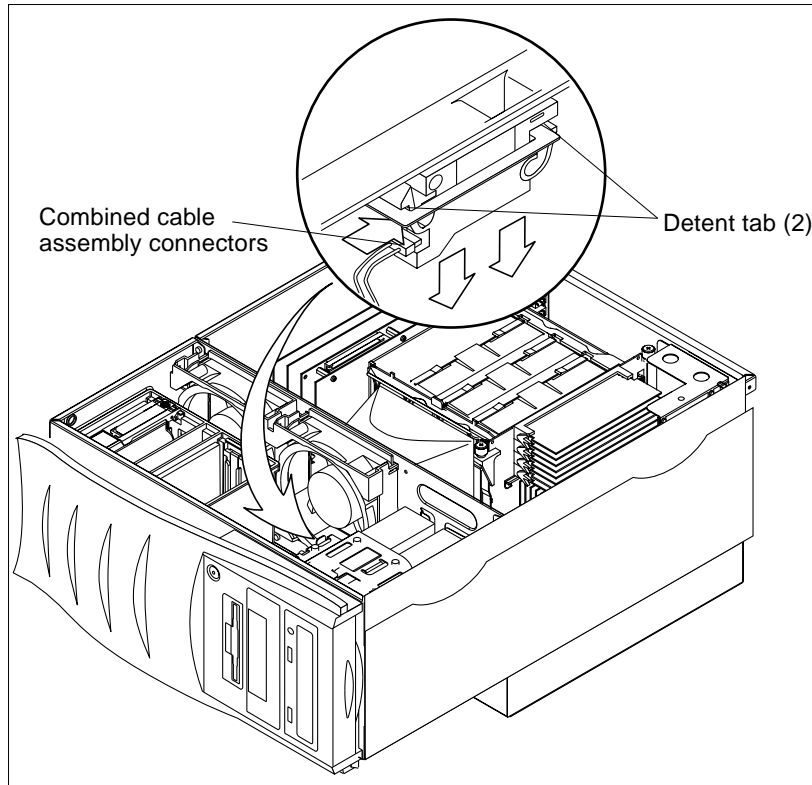

FIGURE 7-8 Removing and Replacing the Interlock Switch Assembly
1. Replace the interlock switch assembly as follows (FIGURE 7-8):